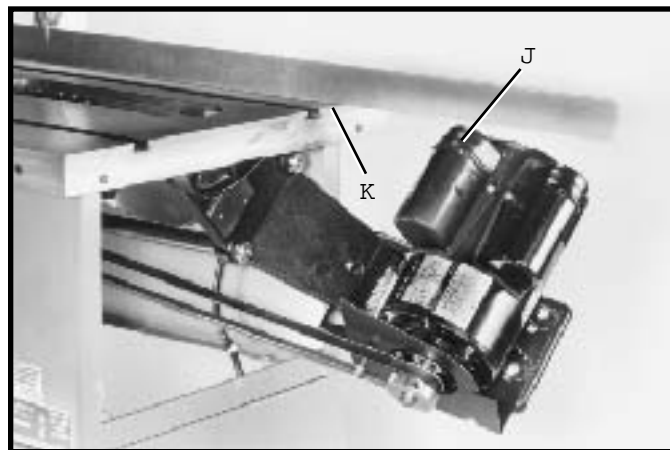

Fig. 21
8. **WARNING:** IMMEDIATELY AFTER ASSEMBLING THE BELT, RAISE THE SAW BLADE TO ITS MAXIMUM HEIGHT AND TILT THE SAW BLADE TO 45 DEGREES. CHECK TO SEE IF THE MOTOR END BELL (J) FIG. 21, IS BELOW THE TOP OF THE TABLE SURFACE (K). IF THE MOTOR END BELL (J) IS ABOVE THE TOP OF THE TABLE SURFACE, THE MOTOR MUST BE MOVED TO THE LEFT UNTIL YOU ARE CERTAIN THE END BELL (J) OF THE MOTOR IS BELOW THE TOP OF THE TABLE SURFACE. THEN RE-ALIGN THE MOTOR PULLEY TO THE ARBOR PULLEY.